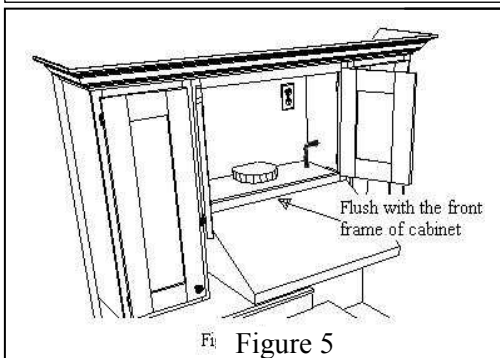

Figure 5
- Lift the hood up and put it in place below the cabinet. Make sure to center the hood beneath the cabinet and be flush with the front of the cabinet figure 5